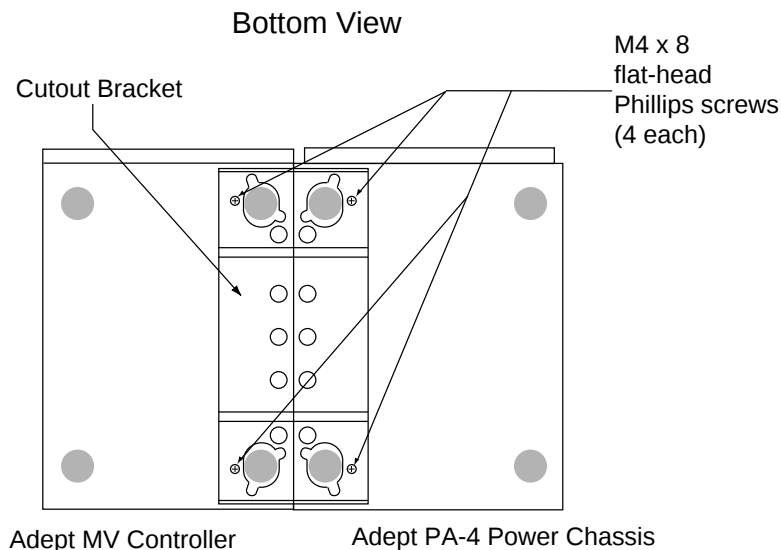

Figure 2-2. Joining the Power Chassis and Controller at the Bottom
3. Place the bracket over the feet of the units as shown in Figure 2-2.
4. Install the four M4 x 8 flat-head screws in the holes indicated in Figure 2-2 to secure the brackets.